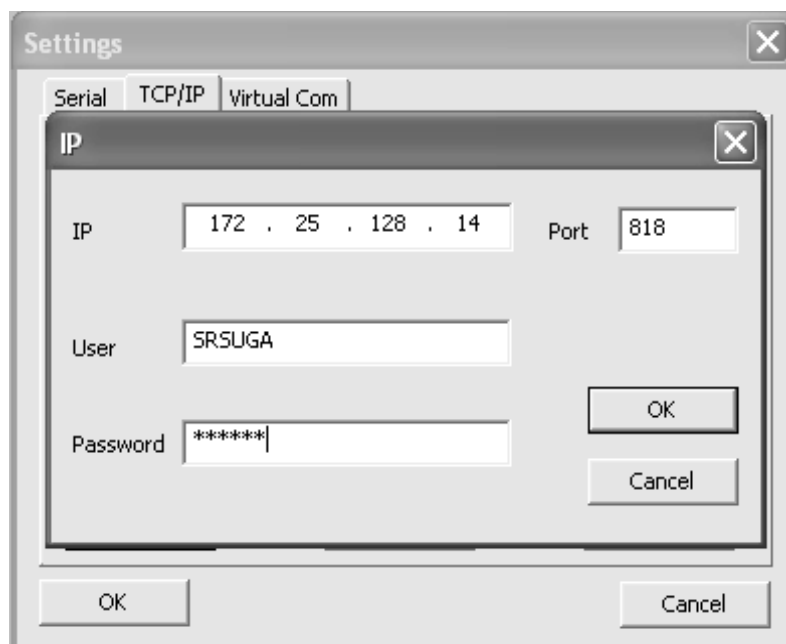

Fig. 2-29. Screenshot of Ethernet data input dialog in RGA.exe
- Click 'Add' button then new data input dialog box will appear (Fig. 2-29).